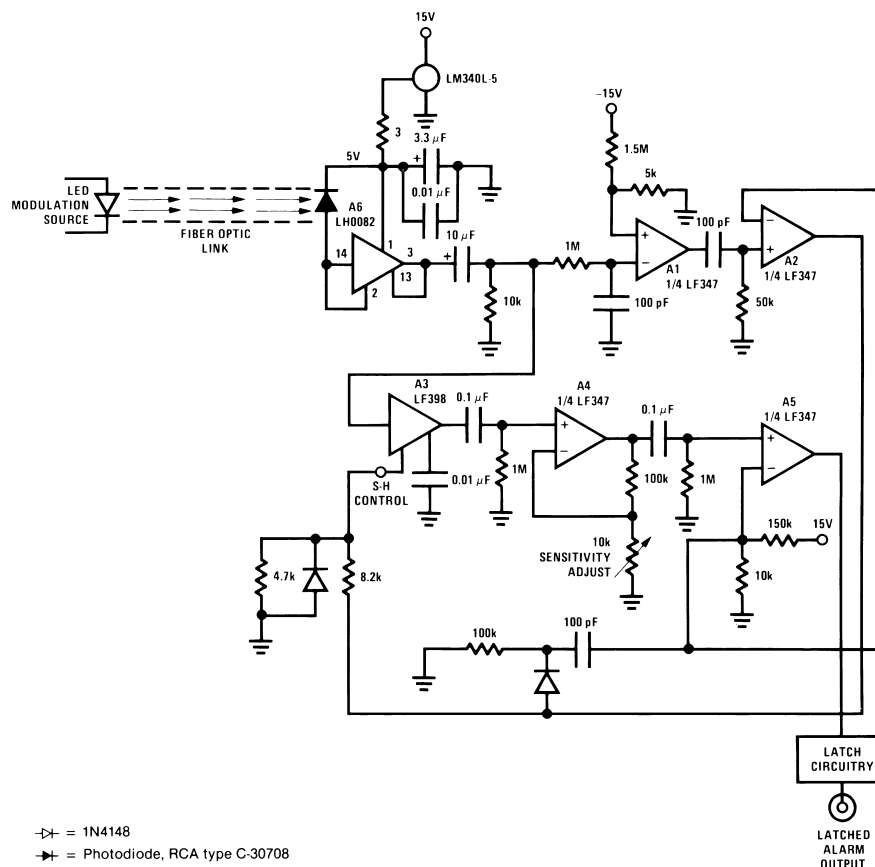
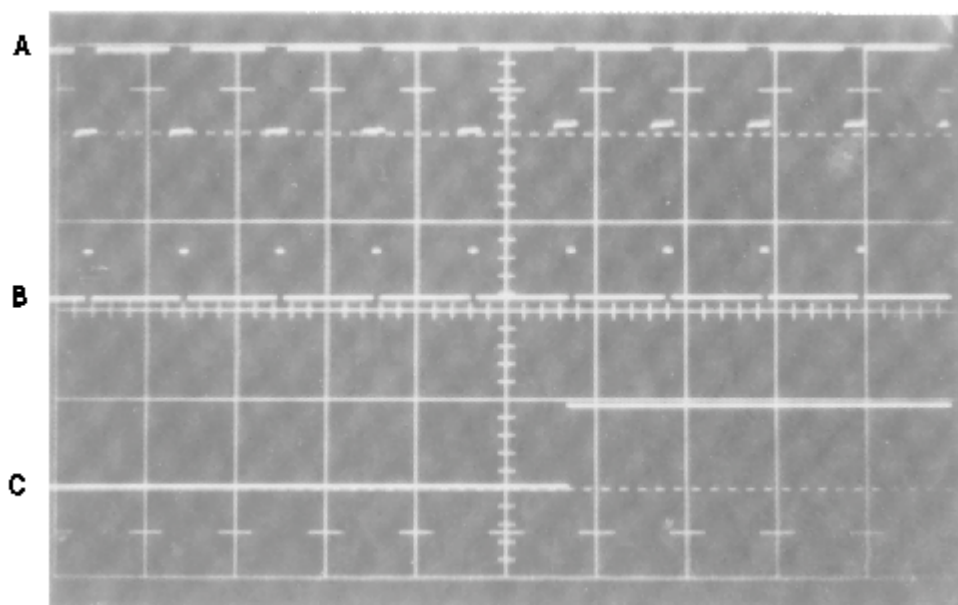

Figure 1. Fiber Optic Data Link Intrusion Alarm
Figure 2. Intrusion Attempt and Detection
The use of sample-and-hold amplifiers as *circuit* oriented components is not as common as the class of application described above. This is unfortunate, because sampling techniques allow circuit functions which are sophisticated, low cost and not easily achieved with other approaches. An excellent example is furnished by the fiber optic data link intrusion alarm of Figure 1.
The circuit of Figure 1 will detect an attempt to tap a fiber optic data link. It may be used with any fiber optic communication system which transmits data in pulse coded form. The circuit works by detecting any short-term change in the loss characteristics of the fiber optic line. Long term changes due to temperature and component aging do not affect the circuit. The amplitude of the pulses at the LH0082 fiber optic receiver IC (A6) will depend upon the characteristics of the photocomponents and the losses in the optical line. Any attempt to tap the fiber optic will necessitate removal of some amount of light energy. This will cause an instantaneous drop in the pulse amplitude at A6's output. The amplitude of each of A6's output pulses is sampled by the LF398 sample-and-hold amplifier (A3), A1 and A2 provide a delayed sample-and-hold control pulse to A3, which insures that A6's output is sampled well after its output has settled. Under normal conditions, the pulse-to-pulse amplitude variations at A6's output will be negligible, and the output of A3 will be at a DC level. A4 is AC coupled and its output will be zero. During an intrusion attempt, energy will be removed from the line and A6's output will shift, causing A3 to jump to a new DC level. This shift will be AC amplified by A4 and the A5 comparator will trip, activating the latch circuitry.
In Figure 1, fiber optic link eavesdropping attempts are immediately detected by this design. Working on a pulse-by-pulse comparison basis, A3 samples each input pulse and holds its output amplitude value at a DC level. Anything that disturbs the next input's amplitude causes a jump in this level; because A4 is an AC-coupled amplifier, the comparator and latch then activate.
Note that the circuit is not affected by slow drifts in circuit components over time and temperature because it is only sensitive to AC disturbances on the line. In addition, the frequency and pulse widths of the data may vary over wide ranges. The photo of an intrusion attempt occurring just past the midpoint of Trace A is immediately detected by Figure 1's circuit. The photodetector's amplifier output (A) shows a slight amplitude drop. The next time the S-H amplifier samples this signal (B), the alarm latch sets (C). Figure 2 shows the circuit in operation. Trace A is A6's output. Trace B is the sample-hold control pin at A3 and Trace C is the latch-alarm output. In this figure, a disturbance on the fiber optic line has occurred just past the midpoint of the photo. This is reflected by the reduced amplitude of A6's output at this point. The latch-alarm output goes high just after the sample command rises, due to the sample-hold amplifier jumping to the new value at A6's output. In the photo, the disturbance has been made large ($\approx 10\%$) for viewing purposes. In practice, the circuit will detect an energy removal as small as 0.1% from the line.